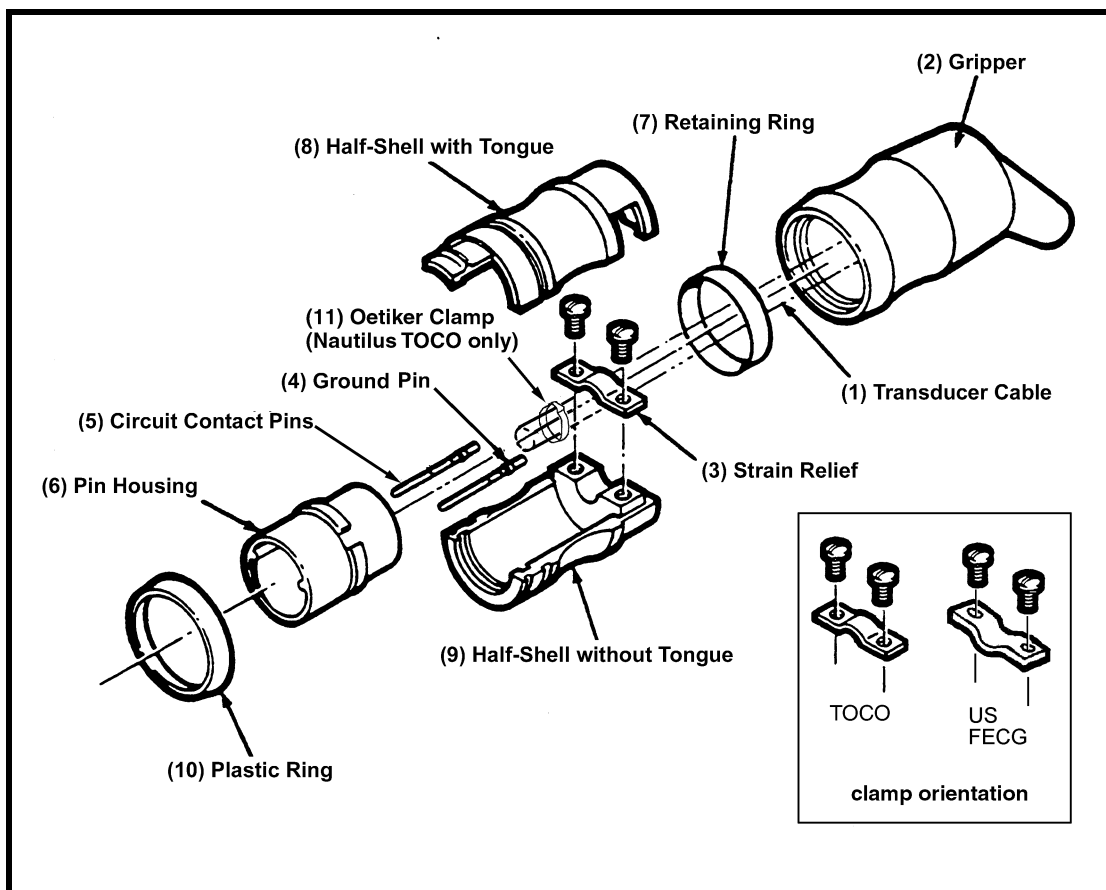

Figure 7-4. Transducer Plug Construction
Refer to Figure 7-4 while replacing a transducer plug. Note that the strain relief clamp (3) orientation is different between tocotransducers and all other transducers (ultrasound, FECG). In addition, the Oetiker clamp (11) is used for *Nautilus* Tocotransducers only.
6. Fasten the strain-relief clamp to the half-shell using the two metric screws. Refer to inset of Figure 7-4.